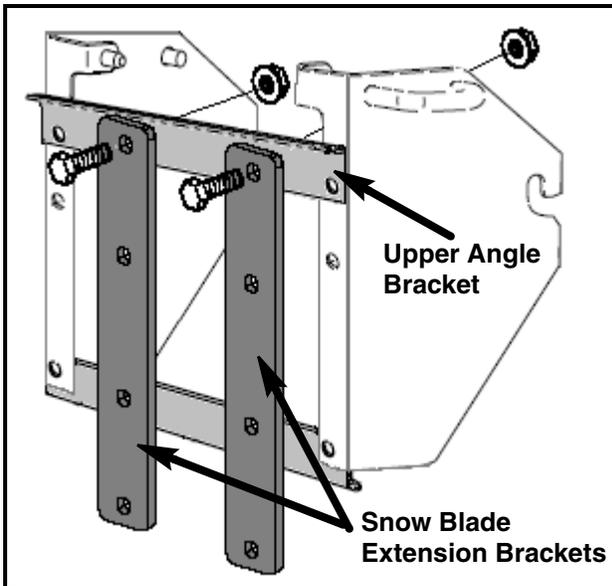

FIGURE 4
8. Secure the two (2) snow blade extension brackets to the upper angle bracket using two (2) of the Ref.# 1 (112-0557) 3/8-16 x 1.25" HHCS and two (2) of the Ref.# 2 (112-0668) 3/8-16 nylon flange lock nuts. See Figure 4.